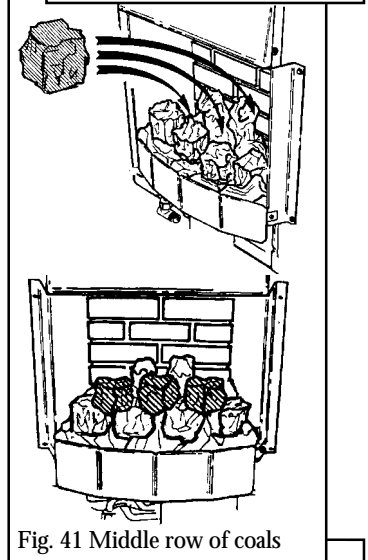

Fig. 41 Middle row of coals
13.4.2 Place the three remaining medium size coals behind and approximately midway between each of the coals in the front row (See figure 41).